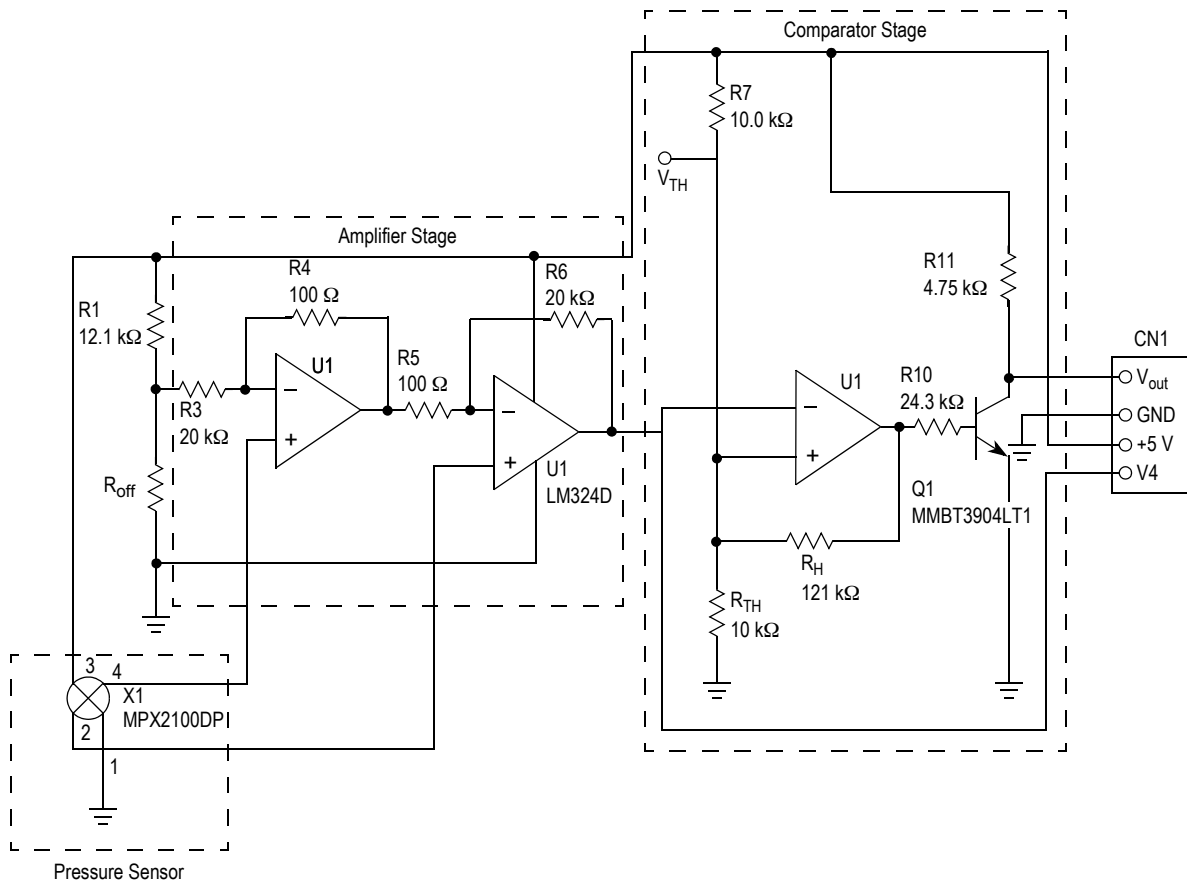
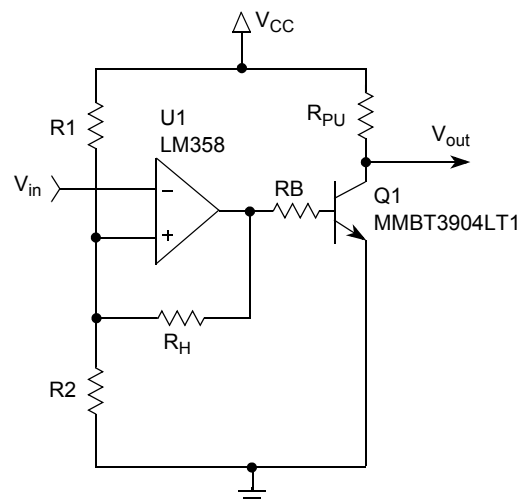

Figure 1. Pressure Switch Schematic
Figure 5. LM358 with a Transistor Output Stage Comparator Circuit Schematic
The amplifier circuitry, shown in Figure 1, is composed of two op-amps. This interface circuit has a much lower component count than conventional quad op amp instrumentation amplifiers. The two op amp design offers the high input impedance, low output impedance, and high gain desired for a transducer interface, while performing a differential to single-ended conversion. The gain is set by the following equation:
- The threshold for which the output switches must be programmable. The threshold is easily set by dividing the supply voltage with resistors R_7 and R_{TH} . In Figure 1, the threshold is set at 2.5 V for $R_7 = R_{\text{TH}} = 10 \text{ k}\Omega$.
The LM358 with a transistor output stage is shown in Figure 5. This circuit has similar performance to the LM311 comparator: its output reaches the upper rail and its switching speed is comparable to the LM311's. This enhanced performance does, however, require an additional transistor and base resistor. Referring to Figure 1, note that this comparator topology was chosen for the pressure switch design. The LM324 is a quad op amp that has equivalent amplifier characteristics to the LM358.
Like the other two circuits, this comparator circuit can be designed with the same equations and procedure. The values for R_B and R_{PU} are chosen to give a 5:1 ratio in Q1's collector current to its base current, in order to insure that Q1 is well-saturated (V_{OUT} can pull down very close to ground when Q1 is on). Once the 5:1 ratio is chosen, the actual resistance values determine the desired switching speed for turning Q1 on and off. Also, R_{PU} limits the collector current to be within the maximum specification for the given transistor (see example values in Figure 1). Unlike the other two circuits, this circuit is positive logic due to the additional inversion created at the output transistor stage.